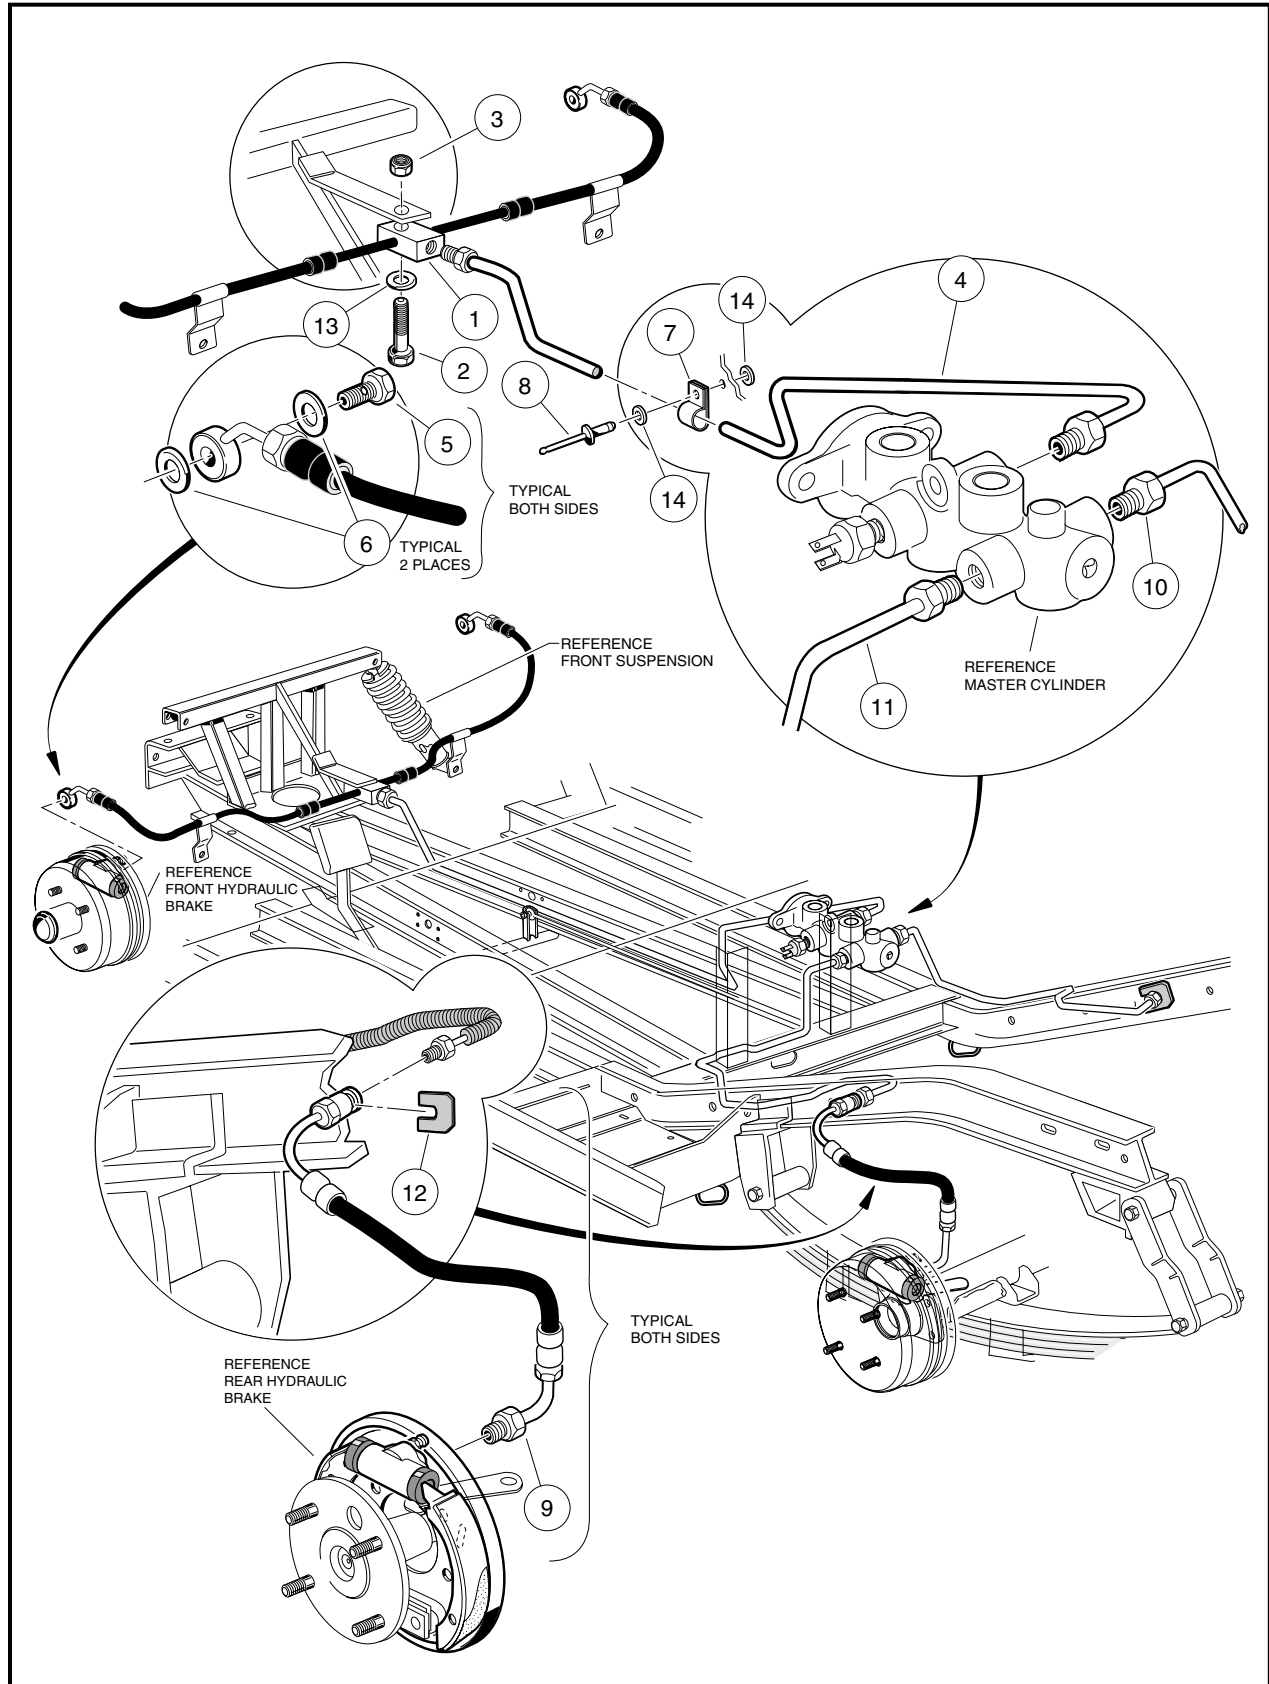

Figure 6b-22 Four-Wheel Hydraulic Brake System
2. Drill the rivet (8) securing the brake line (4) to the vehicle frame (**Figure 6b-22, Page 6b-28**).
4. Using a 7/16-inch flare nut wrench, remove the flare nut of the front brake line (4) from the master cylinder (**Figure 6b-22, Page 6b-28**).
5. Using a 3/8-inch flare nut wrench, remove the opposite end of the brake line (4) from the T-manifold block (1) (**Figure 6b-22, Page 6b-28**).
1. Connect the 7/16-inch flare nut of the brake line (4) to the master cylinder and tighten finger-tight (**Figure 6b-22, Page 6b-28**).
2. Connect the 3/8-inch flare nut of the brake line (4) to the T-manifold block (1) and tighten finger-tight (**Figure 6b-22, Page 6b-28**).
3. Secure the brake line to the vehicle frame with the P-clamp (7), new 3/16 x 3/4-inch aluminum pop rivet (8) and two 3/16-inch rivet washers (14) (**Figure 6b-22, Page 6b-28**).
4. Using a 7/16-inch flare nut wrench, tighten the flare nut from the brake line (4) to the master cylinder to 11 ft-lb (14.9 N·m) (**Figure 6b-22, Page 6b-28**).
5. Using a 3/8-inch flare nut wrench, tighten the flare nut from the brake line (4) to the T-manifold block (1) to 11 ft-lb (14.9 N·m) (**Figure 6b-22, Page 6b-28**).
**NOTE:** *If either of the two front brake hoses or the T-manifold block (1) are found to be damaged, the entire assembly must be replaced (**Figure 6b-22, Page 6b-28**).*
3. Remove the banjo bolt (16) and two copper washers (17) from each of the front brake wheel cylinder assemblies (**Figure 6b-3, Page 6b-4**). Discard the copper washers (17).
5. Using a 3/8-inch flare nut wrench, remove the brake line (4) from the T-manifold block (1) (**Figure 6b-22, Page 6b-28**).
6. Remove the bolt (2), washer (13) and lock nut (3) that secure the T-manifold block (1) to the shock tower and remove the front brake hose assembly (**Figure 6b-22, Page 6b-28**).
1. Install the 1/4-20 x 1-1/4-inch hex-head bolt (2) through washer (13) and through the T-manifold block (1) and frame bracket. Install and tighten the nylon lock nut (3) to 76 in-lb (8.6 N·m) (**Figure 6b-22, Page 6b-28**).
2. Connect the brake hose assemblies to each of the front brake wheel cylinders, using new copper washers (17) and banjo bolts (16). Position the elbow of each hose toward the rear of the vehicle. Tighten bolts to 13 ft-lb (17.6 N·m) (**Figure 6b-3, Page 6b-4**).
4. Using a 3/8-inch flare nut wrench, connect the flare fitting on the front brake line (4) to the T-manifold block (1). Tighten to 11 ft-lb (14.9 N·m) (**Figure 6b-22, Page 6b-28**).